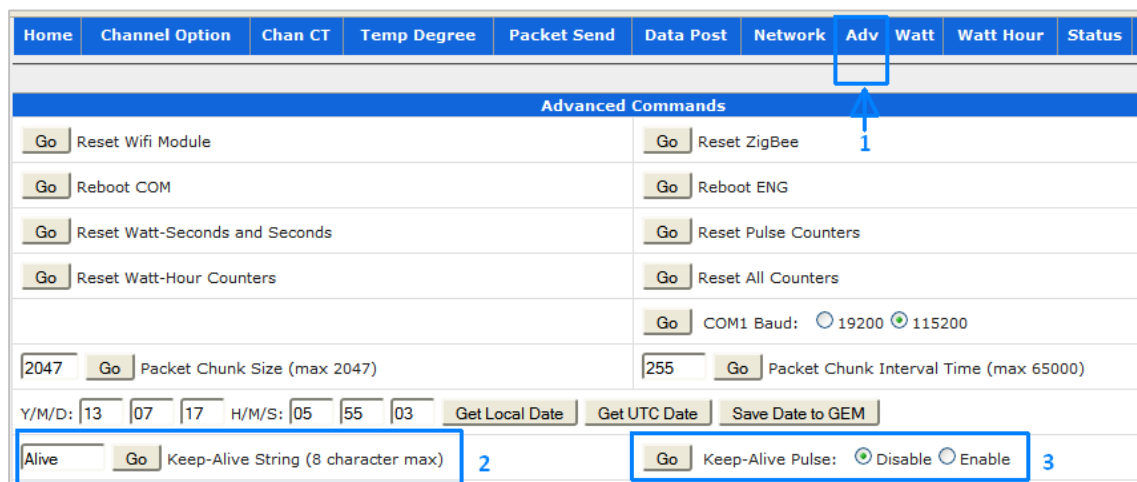

Figure 3
A technique which sends a “Keep-Alive” (or Heartbeat) byte or bytes may be used to keep the connection open. This is accomplished by sending the Keep-Alive at a given interval. The interval is set using the specified “Primary Packet Send Interval”. The character used for keep-alive is specified in the “Advanced” menu section of the GEM setup page. Figure 3 (1)
By default the keep-alive string is "Alive" but may be changed to any string between 1 to 8 characters. See Figure 3 (2). Remember to click "Go" to save the change.
Enable the keep-alive string using the section shown in Figure 3 (3). Again remember to click "go" to save the selection.